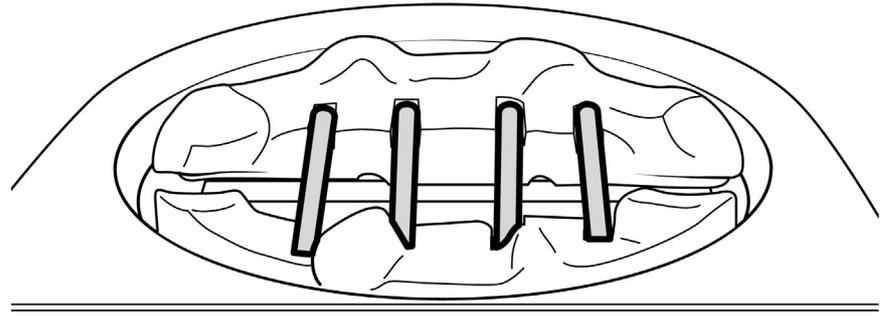

Figure 32. Ceramic support rod location
3. There are four ceramic support rods. Locate the ceramic support rods into the slots of the ceramic base. The support rods should be perpendicular to the front and rear of the appliance. If they appear to taper to the left or right then adjust the base pebbles accordingly. (See figure 32)